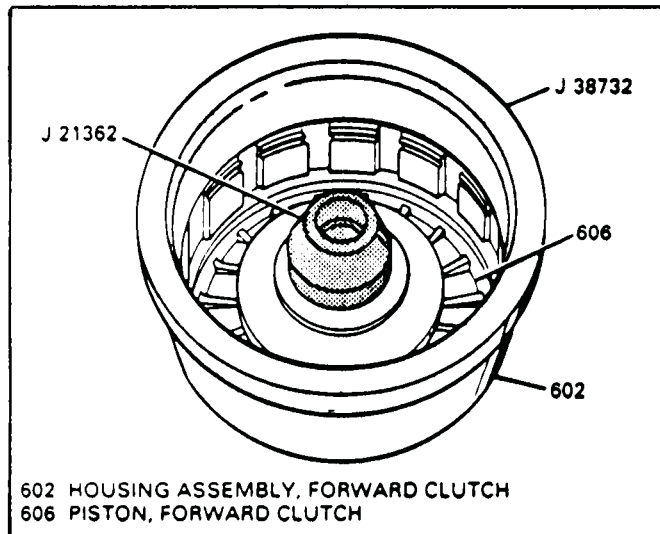

Figure 82
14. Install lip seal protectors on housing as shown in Figure 82, and install the forward clutch piston into the housing by rotating into position.